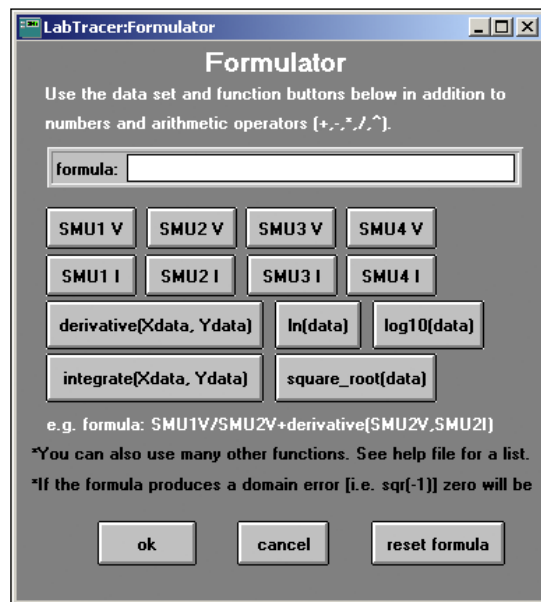

Figure 9. Formulator
- If the formula data is activated (the light is turned on), then click the **formula** button to bring up the Formulator (Figure 9). From here, enter a formula using the TestPoint function calls. For more information on function calls, open the TESTPT.hlp file in the LabTracer Install pack. The math function section contains a complete list of functions. This formula is not checked for validity, so if the formula is incorrect, it may return incorrect data or cause errors like divide by zero during the test. Feel free to ignore any errors and continue the test because formula errors won't affect the collected data.